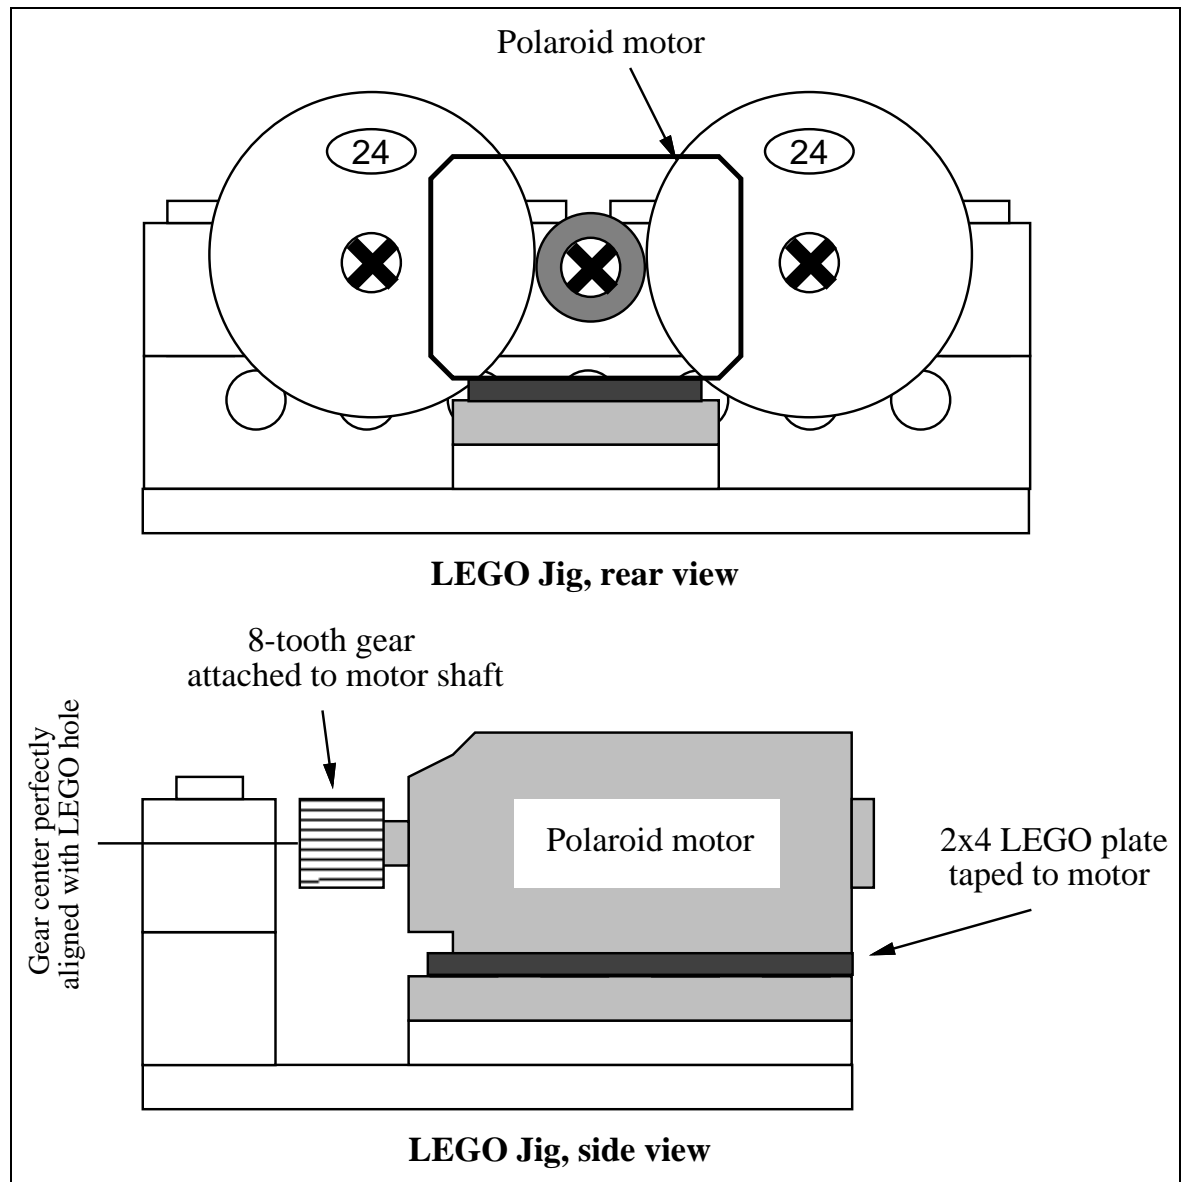

Figure 4.22: LEGO Jig for Mounting Polaroid Motor
This platform or jig is shown in Figure 4.22. It is constructed from two 2×8 beams, one 6×8 flat plate, one 2×4 plate, two 24-tooth gears, and two axles.
- Assemble the jig as shown in Figure 4.22. A second 2×4 plate will be mounted to the motor.